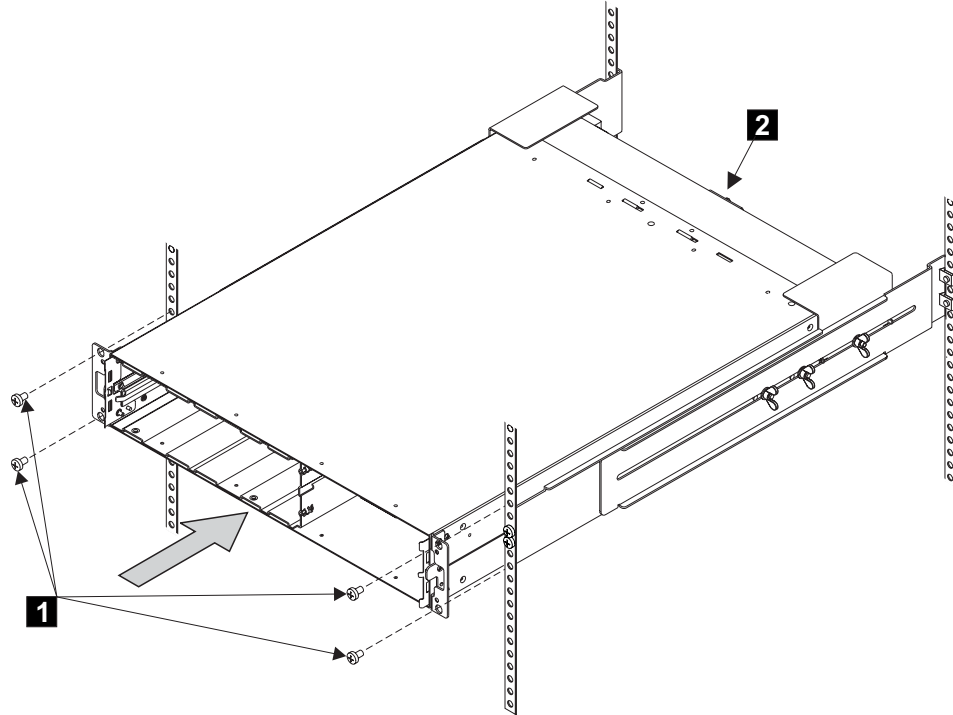

Figure 30. Installing the 2145 UPS into a rack
6. Install the front flathead screws **1** as seen in Figure 30 on page 57.